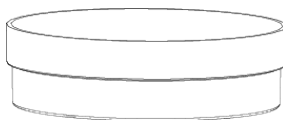

Figure 65 Sample Cup
- b. Fill the sample cup (Figure 65) enough to cover the bottom but no more than half full. Clean sample cup bottom, sides, and rim thoroughly with KIMWIPES® strips.